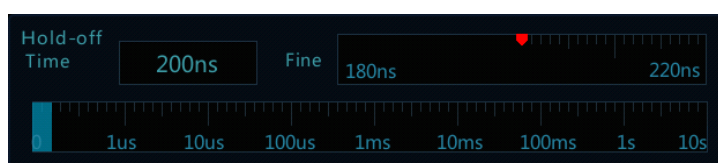

Figure 5-10 Trigger Hold-off Time Set Interface
- 1) Tap “Trigger” on the main menu to open the trigger menu. Under “Common”, tap the box after “Rejection Time” to open the rejection time adjustment interface. The trigger time is displayed on the upper left, the fine adjustment time scale is displayed on the upper right, and the coarse time scale is displayed below, as shown in Figure 5-10.